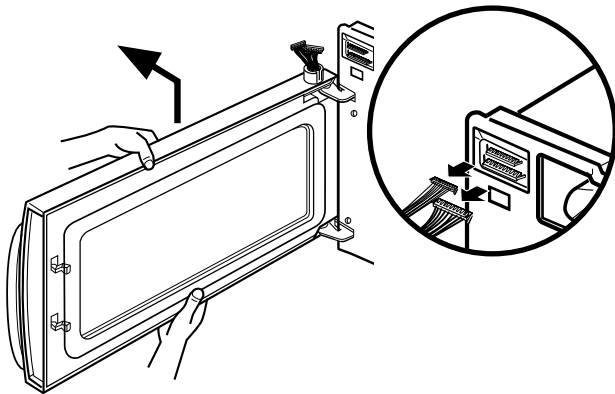

Figure 15
- (1) Remove one rivet ASS'Y securing it to the oven upper plate by using knife blade.
- (2) Pull out the stirrer fan cover.
- (3) Remove two rivets ASS'Y securing it to the oven upper plate by using knife blade.
- (4) Remove the stirrer fan.
F. REMOVING DOOR (Figure 15)
- (1) Remove the vent grille by removing two screws securing it to the outside case loosening.
- (2) Disconnect two leadwires.
- (3) Lift up and remove the door.